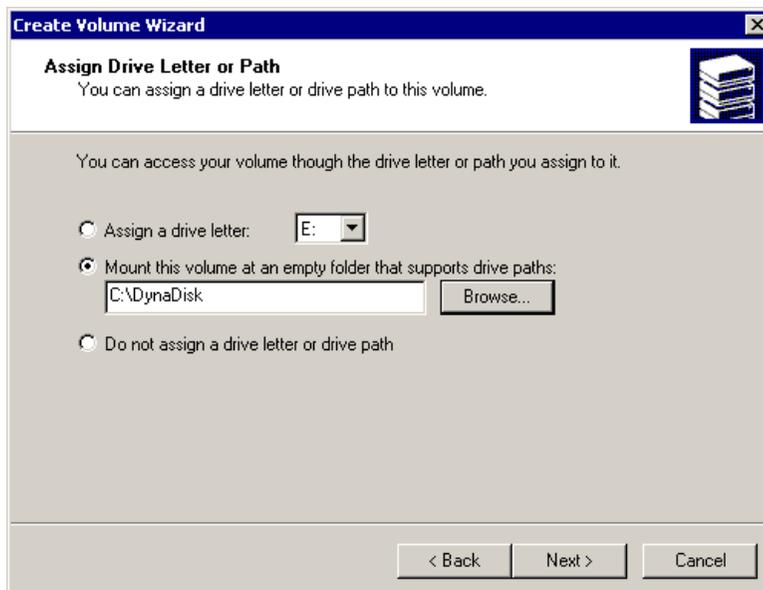

Figure 102. Assign Drive Letter or Path
6. You will be asked to assign a drive letter or path (Figure 102). As with Windows NT 4.0, a volume can be assigned any unique letter or can have no drive letter assigned, which makes it inaccessible to programs and users.